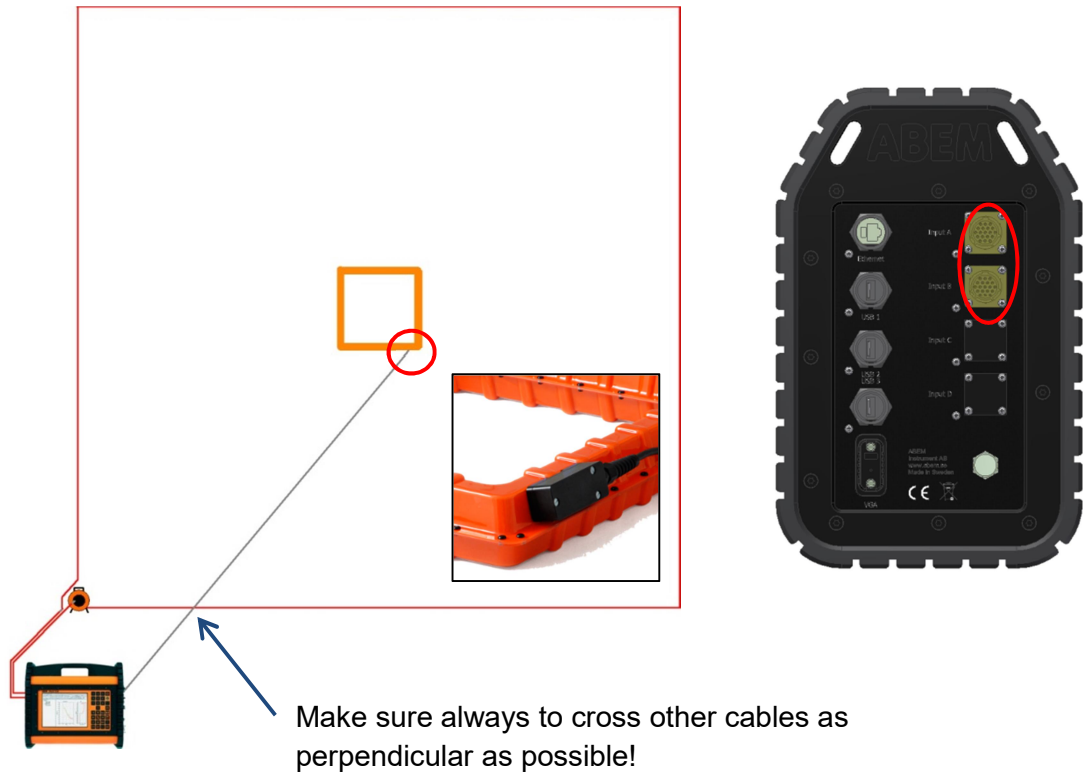

Figure 11. The RC-5 receiver connects to an input on the ABEM WalkTEM.
- 3) Place the RC-5 antenna in the middle of the transmitter loop. Make sure that the correct side of the coil is facing upwards; otherwise the acquired data will be negative. The correct side can be tested by collecting data with the coil turned both ways. Usually the black connection box should be facing upwards. When checking the data in the ABEM WalkTEM user interface it needs to be red, as red = positive. The cable connects to the right hand side of the ABEM WalkTEM unit at connector A or B (Figure 11).
- 4) The RC-200 10 m x 10 m antenna is then laid out around the RC-5 antenna in the manner shown in Figure 11. The RC-200 antenna receiver loop has markings in each corner. Make sure that it is a square and that the RC-5 antenna is placed exactly in the center of the 10 m x 10 m antenna receiver loop. If the RC-5 antenna is not centered, a slight offset between the two receiver loops can be seen in the db/dt curves when collecting the data.